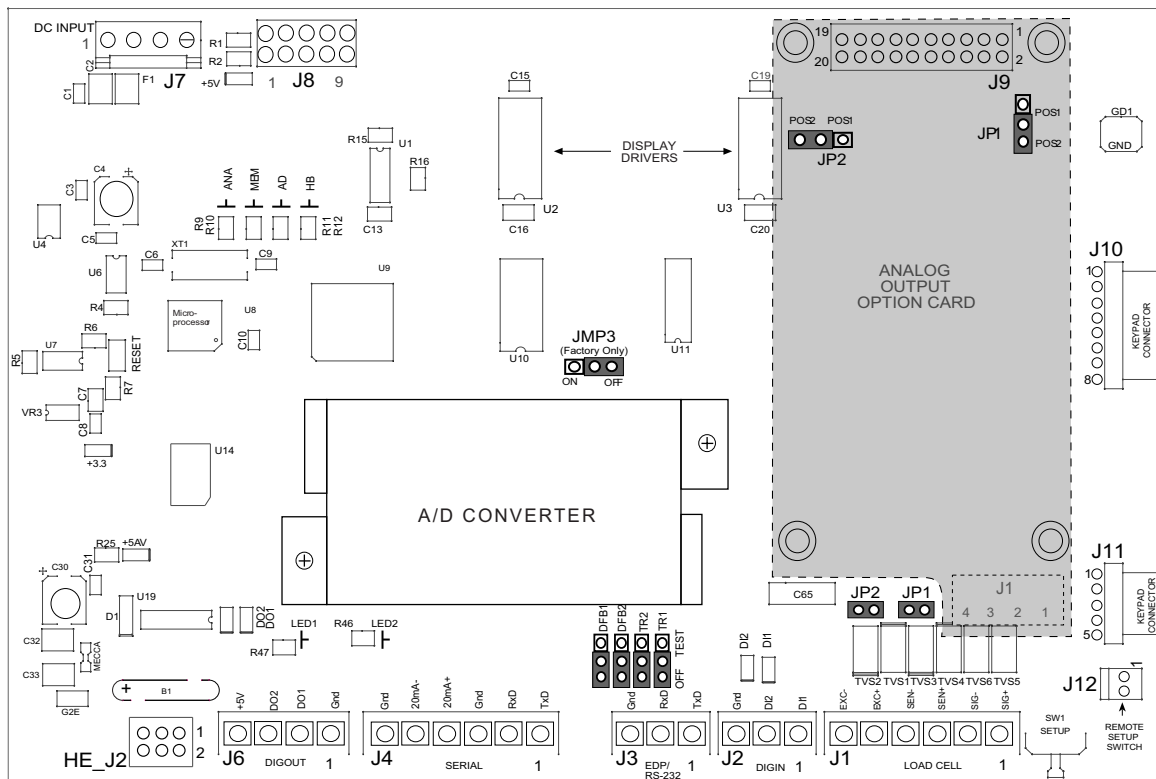

Figure 2-3. 420 Plus CPU and Power Supply Board with Analog Output Option Card
- Two, six-position screw terminals (PN 70599) for connectors J4 & J1, two, three-position screw terminals (PN 71125) for connectors J2 and J3, and one, four-position screw terminal (PN 71126) for connector J6 (see figure 2-3).
Using one of the 6-position connectors, provided in the parts kit, wire the load cell cable from the load cell or junction box to connector J1 on the CPU board (See Figure 2-3 on page 7). If using six-wire load cell cable (with sense wires), remove jumpers JP1 and JP2 before reinstalling connector J1 (see Figure 2-3). For four-wire installation, leave jumpers JP1 and JP2 on. When connections are complete, reinstall connector J1 onto the header so that it snaps securely into place. Use two cable ties to secure the load cell cable to the inside of the enclosure.
Once cables are attached, reconnect J3 and J4 to the headers on the board (see Figure 2-3). Use cable ties to secure serial cables to the inside of the enclosure.
Mount the analog output module on its standoffs in the location shown in Figure 2-3 on page 7 and plug the module input into connector J9 on the *420 Plus* board. Connect output cable to the analog output module as shown in Table 2-4, then reassemble the enclosure (Section 2.5).
4. Unplug connectors J1 (load cell cable), J2 (digital inputs), J3 (EDP/RS-232), J4 (serial communications), J6 (digital outputs), HE_J2 (display) and J10 & J11 (keypad ribbon cables). If an analog output board is installed, disconnect the analog output cable. See Figure 2-3 on page 7 for connector locations.